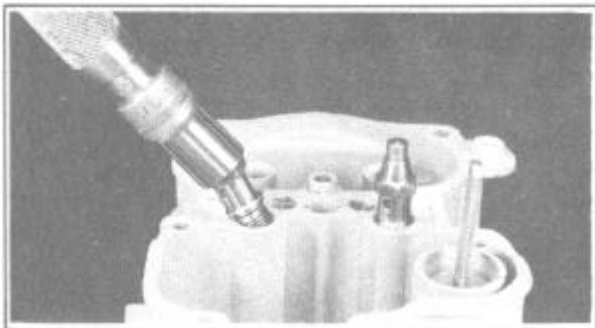

FIGURE 71
13. Install anti-percolator valves, Figure 71.